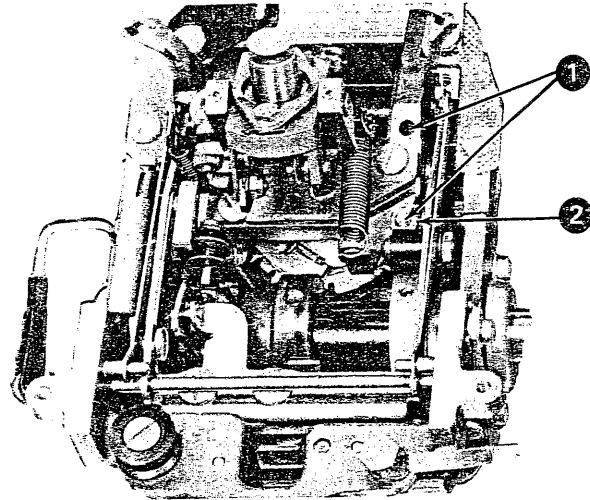

Figure 4-13. Rotate-Spring Replacement (Steps 5 and 6)
6. Remove the screw (No. 2, Figure 4-13) to the right of the yoke on the carrier, and remove the rotate-cage-spring-tension clip. Earlier machines have a screw entering from the bottom of the carrier, with a nut on top holding the clip.